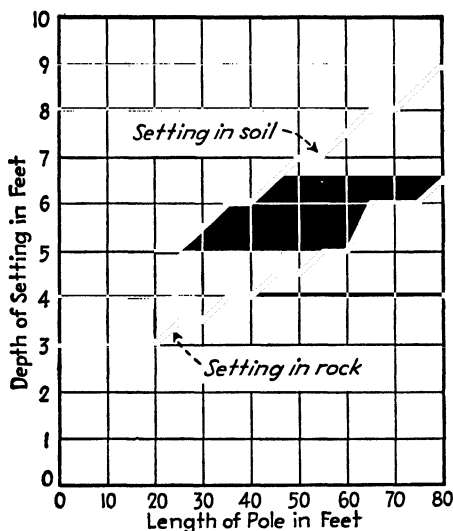

FIG. 11-1. Recommended pole-setting depths in soil and rock.
**Depth of Hole.** The depth of setting is determined by the length of the pole and by the holding power of the soil or earth. The required average setting depths have been determined by experience. The recommended depths of setting in soil and rock are given in Table 11-1 and Fig. 11-1 for various pole lengths from 20 to 80 ft. It will be noted